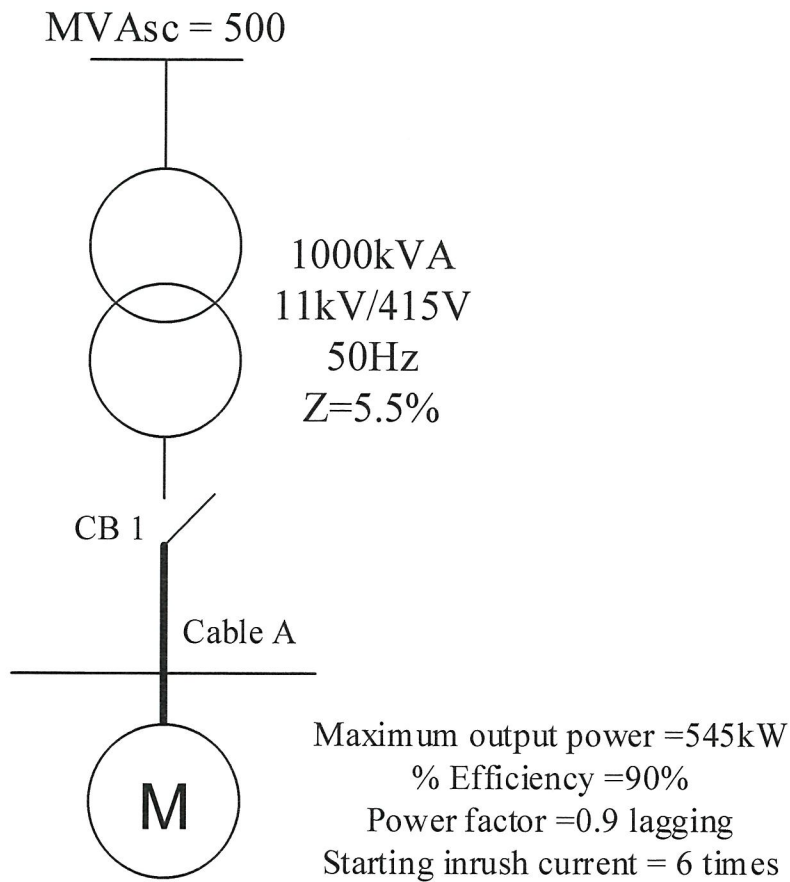

Figure Q1(c)
- Q1** (a) (i) List down **three (3)** types of primary distribution lines in power system. (2 marks)
- (b) (i) Instrument transformers (IT) are high accuracy class electrical devices used to isolate or transform voltage or current levels. Write the primary applications of instrument transformer in industrial power systems. (2 marks)
- (ii) Oil-filled, non-flammable liquid-filled and dry type are the commonly power transformer used in distribution system. Show **two (2)** differences between oil-filled and dry type power transformer. (4 marks)
- (c) **Figure Q1(c)** shows single line diagram of small industrial plant. A distribution transformer is to be installed to serve a motor loading. The transformer will be connected to a finite bus that having a short circuit capacity of 500 MVA.
- (iii) The fault clearing time (t_c) of the circuit breaker/ fuse is to be assumed as 10 cycles for low voltage breakers with intermediate/short time delay. The conductor type for marked as “Cable A” is copper with XLPE insulation. The final (T_2) and initial temperatures (T_1) are given in **Table Q1(c)(iii)**. Identify the constant K for Cable A based on the Equation (1) in Appendix A. (2 marks)
- (iv) If the standard rating for Circuit Breaker 1 (CB 1) to be chosen as 45 kA, select the minimum size (in mm^2) of Cable A due to short circuit temperature rise and Equation (2) in Appendix A. (3 marks)